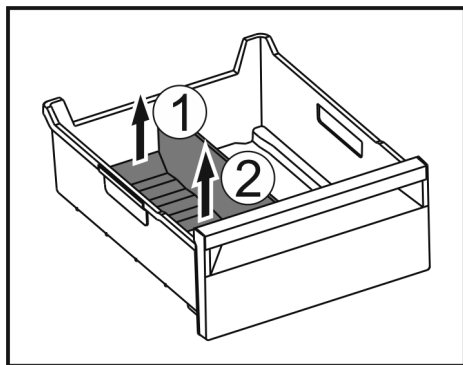

Fig. 169
- Lift the rear part of the ice compartment divider. Fig. 169 (1)
- Remove the ice compartment divider upwards. Fig. 169 (2)